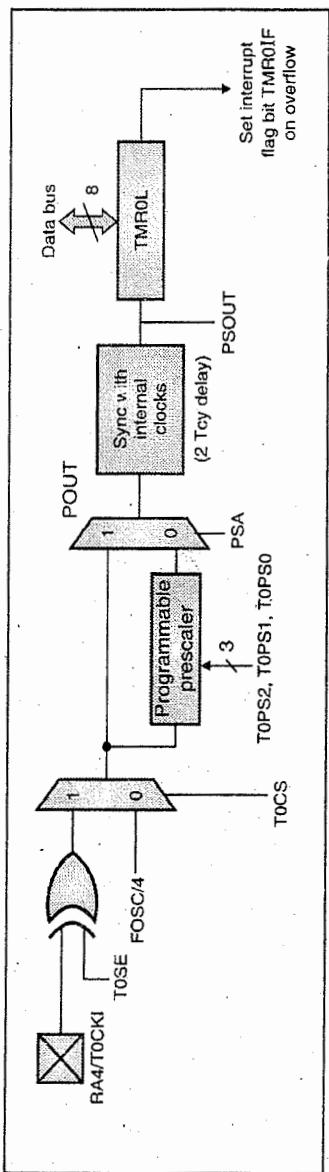
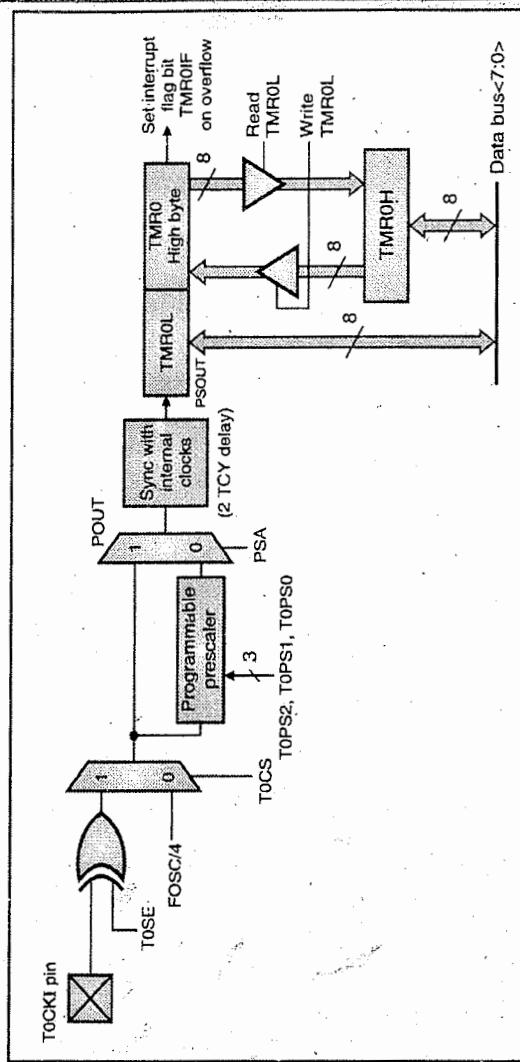

Fig. 7.3.1 : TIMER 0 block diagram in 8-BIT mode
Fig. 7.3.2 : TIMER 0 block diagram in 16-BIT mode
Fig. 7.3.1 shows a simplified block diagram of the Timer 0 in 8-bit mode and Fig. 7.3.2 shows a simplified block diagram of the Timer 0 in 16-bit mode.
- As shown in Fig. 7.3.2, the TMROH register behaves as a buffer between the internal data bus and TMR0 high byte. When the TMR0L register is read by the microcontroller, the contents of the TMR0 high byte are sent to the TMROH register. When the microcontroller reads the high byte, it is read from TMROH register.